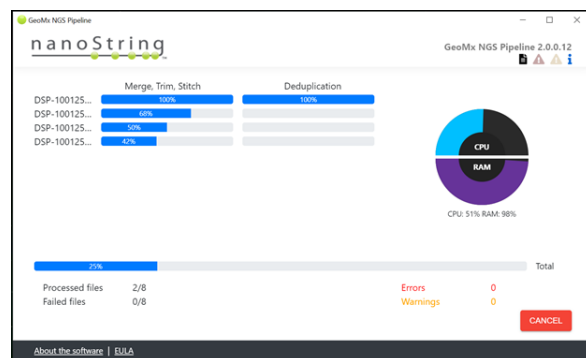

Figure 12: GeoMx NGS Pipeline run monitoring window
11. Monitor the progress (see Figure 12).